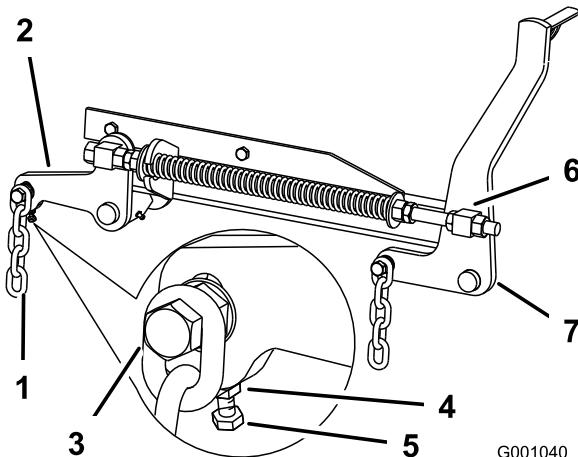

Figure 86
7. If the measurements at positions **B** or **C** are not correct, loosen the bolt attaching the rear chain to the rear support arm (Figure 86).
8. Loosen the jam nut under the rear support arm and adjust the adjustment bolt to get a measurement of 3-1/8 to 3-1/4 inches (80 to 83 mm) (Figure 86).
7. Loosen the front swivel jam nuts, at the front of the right and left swivels, approximately a 1/2 inch (13 mm) (Figure 86).
- (6 to 10 mm) lower in front at **A** than in the rear at **B** (Figure 86).